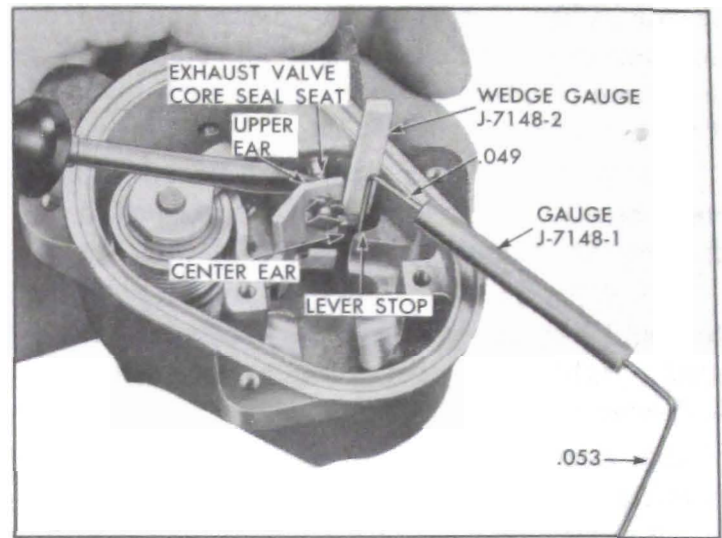

Figure 7-71—Checking Exhaust Valve
stop and lever ear and press down securely. Gauge J-7148-2 is a wedge and should hold the feeler gauge so that it does not fall out. See Figure 7-71.
(3) The incoming air will unseat the exhaust valve core. Therefore, use a suitable tool, such as a thin blade screwdriver, and using a moderately light pressure, press against the exhaust core at the core seal seat. A slight amount of air leakage should be heard. See Figure 7-71.